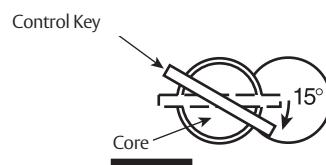

Figure 10
1. Insert key marked CONTROL and turn clockwise approximately 15°. (Figure 10)